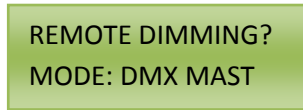

Figure 17.2
- a. This Action allows the Time-Keeper® to be a DMX Master or DMX Slave. To change the MODE from DMX Master, pressing the RIGHT Arrow will change it to DMX Slave. Changing Time-Keeper® to DMX Slave creates two more options to change. To change the Relay Address, press the DOWN Arrow so the cursor is on the colon between the words RLY AD and 001. Pressing the RIGHT Arrow will move the cursor over the numbers enabling them to be changed by pressing the UP or DOWN Arrows. Press the LEFT Arrow to return to the colon to move onto programming the Dimmer Address. Press the DOWN Arrow to move the cursor onto the colon between the words DIMS AD and 073. Press the RIGHT Arrow to move the cursor over the numbers, enabling them to be changed by pressing the UP or DOWN Arrows. Make sure to press ENTER to save the information. See Figure 17.2 and 17.3 for an example.